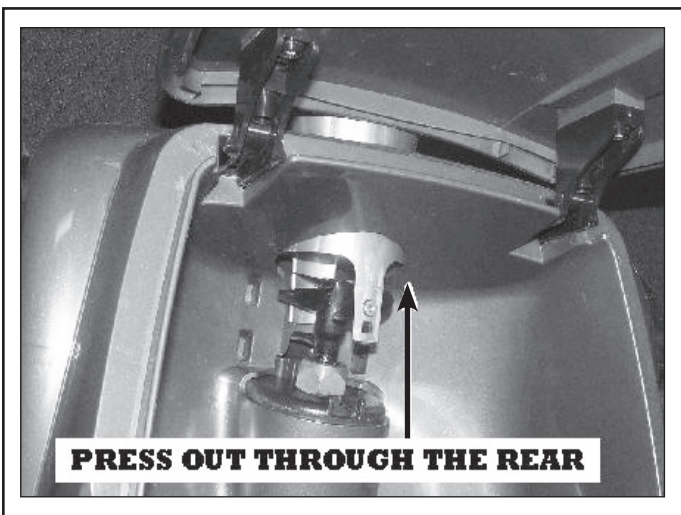

Figure 7. Remove the Propeller and Flow Director
2. Remove the propeller and the flow director (see Figure 7).